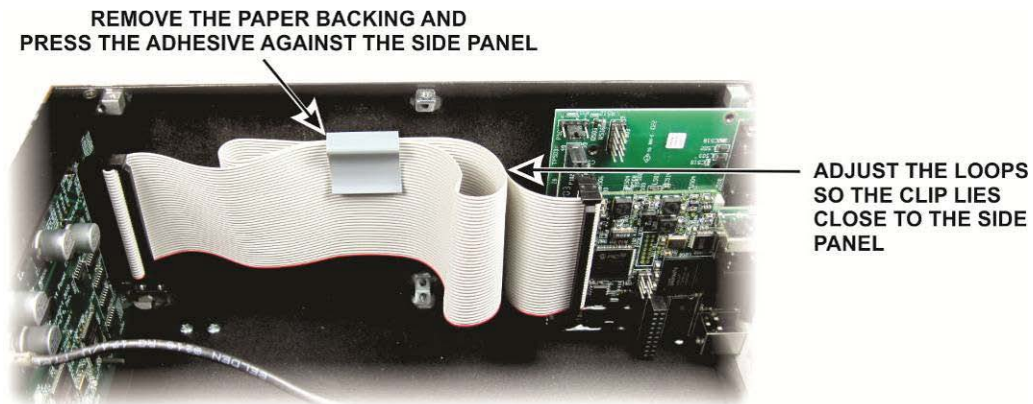

Figure 24. Clip Mounted on Side Panel.
- Slide the ribbon cable through the clip to adjust the folds so the clip lies near the side panel without being pulled away by the cable (see Figure 24).
- Remove the paper backing from the adhesive side of the clip and press it against the side panel as shown in Figure 24.